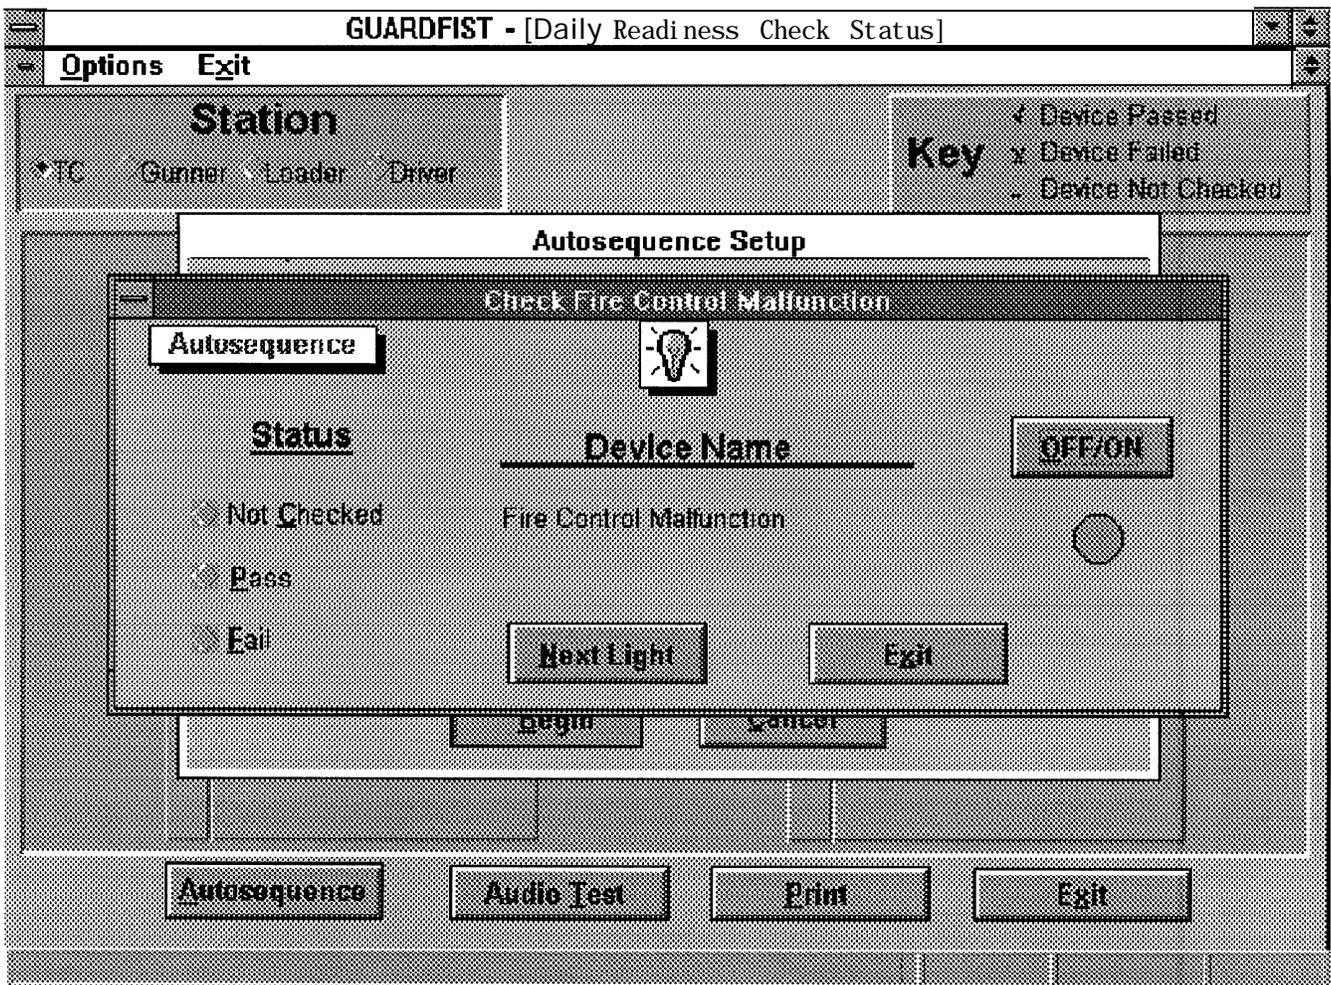

Figure 2-95. Check Fire Control Malfunction Screen
2.6.6.3 Conducting DRC on a Light. For each light selected with the procedures in 2.6.6.1, AFIST displays a DRC screen, like the one shown in Figure 2-95, one at a time. At each screen, perform the DRC of that device as follows: